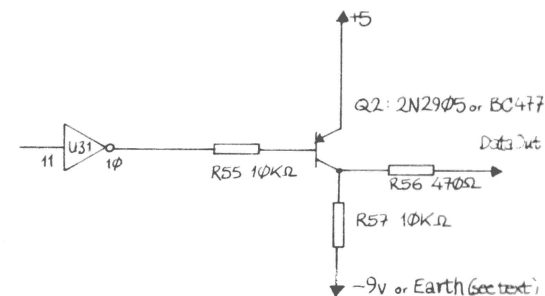
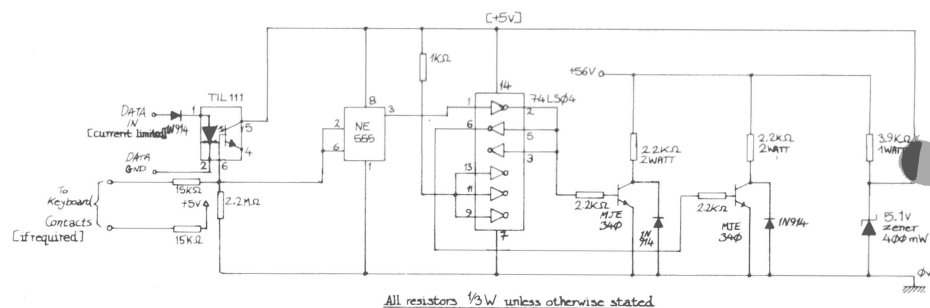
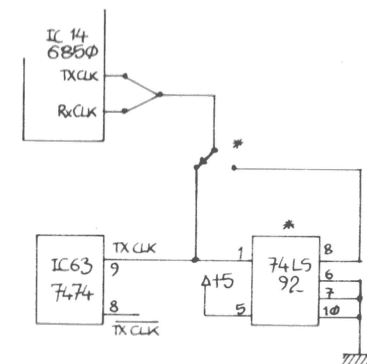
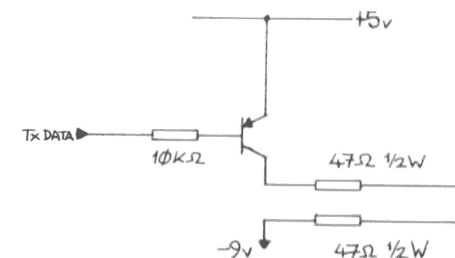

Figure 2: RS-232 interface in computer.
Figure 3: Teleprinter drive circuit.
Figure 4: Suggested modification of baud rate for UK101 and possibly C1/Superboards.
Figure 8: 20ma interface.
To output the data I implemented the transistor RS-232 interface by installing U31, Q2, R55, R56 and R57 (see Figure 2) and breaking the printed circuit track from pin 2 of U41, otherwise the output of U41 would be in contention with the output from Q2. It may be necessary to generate a -9V supply to R57, but this depends on the teleprinter driver circuitry. With the circuit given in Figure 3, a -9V supply is unnecessary (but acceptable if already fitted), so I connected the -9V rail to earth. Two points worth stating about Figure 3 are firstly the circuit expects the input current to be limited by the source, which in this instance is achieved by R56 in Figure 2; and secondly the opto-isolator on the input may appear to be a bit exotic, but the back-EMF from the teleprinter coil is several hundreds of volts so it is wise to ensure this cannot reach the computer.
C1/Superboard and UK101 users can readily implement their equivalent circuits to Figure 2, however, the cassette clocks for these computers are derived from the video divider chain. For UK101 users I suggest the use of a 7492 (divide-by-2 and divide-by-6) integrated circuit as indicated in Figure 4; however, not having any detailed knowledge of C1/Superboards I cannot make any suggestions, but it is possible that Figure 4 also applies.
3. Input current must be limited by source, e.g. R56 in Fig.2.
RS-232 TxData can be implemented in accordance with the user manuals. 80-0-80 can be interfaced using the circuits of *Figures 2 and 3* of the earlier part of this article; however, it may be necessary to increase the supply voltage from 56V to 80V and change the 2.2K 2-watt resistors to 3.3K 3-watt, and the 3.9K 1-watt resistor to 5.6K or 4.7K 2-watt. For a 20mA interface it is tentatively suggested that the circuit of *Figure 8* is tried instead of the RS-232 TxData circuit in the manuals.